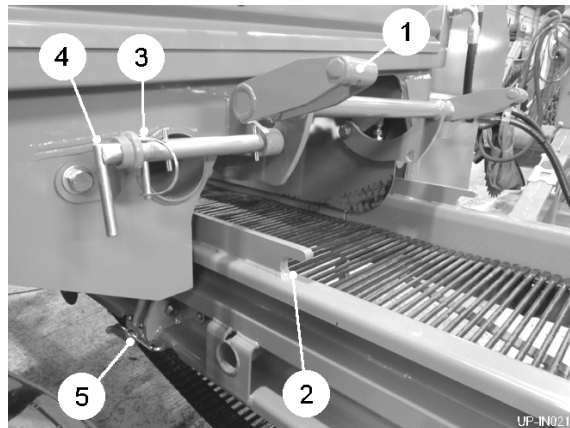

Fig 15
2. Once horizontal, disengage the latch arm (item 1, fig 15) from the hook plate (item 2, fig 15).
3. Raise the latch arm (item 1, fig 15) clear of the conveyor as shown.
4. Remove the linchpin (item 3, fig 15) and slide the support pin (item 4, fig 15) into the hole in the latch arm. Refit the linchpin.
5. Finally, lock the conveyor with the bottom catches (item 5, fig 15).
1. Unlock the conveyor bottom catches (item 5, fig 15).
2. Remove the linchpin (item 3, fig 15) and slide the support pin (item 4, fig 15) out to release the latch arm (item 1, fig 15). Refit the linchpin.
Always refit the linchpin to hold the support pin (item 4, fig 15) away from the latch arm (item 1, fig 15). Failure to do this could result in serious damage to the conveyor when folding.
3. Lower the latch arm (item 1, fig 15) onto the conveyor.
4. Using the two external switches, move the cross conveyor to engage the latch arm (item 1, fig 15) into the hook plate (item 2, fig 15).
5. Finally, carefully raise the conveyor until in full contact with the rubber stop (item 6, fig 15).